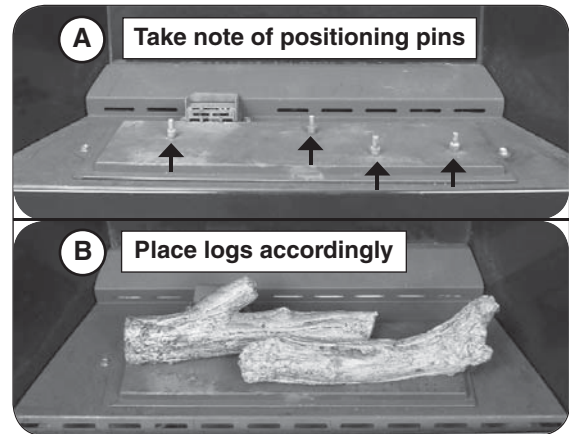

Fig. 28-1 Install media - **glass w/ logs**
2. Install the two logs as shown in Fig. 28-1. Take note of the positioning pins on the burner, as they will align with the holes on the bottom of the logs.